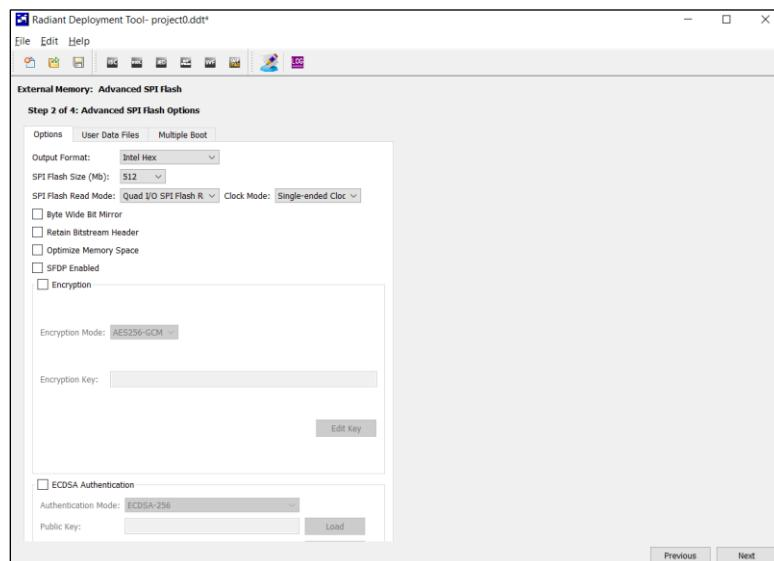

Figure 8.64. External Memory Step 2 of 4: Select Options
7. In Step 2 of 4: Select the fields as shown in Figure 8.64.